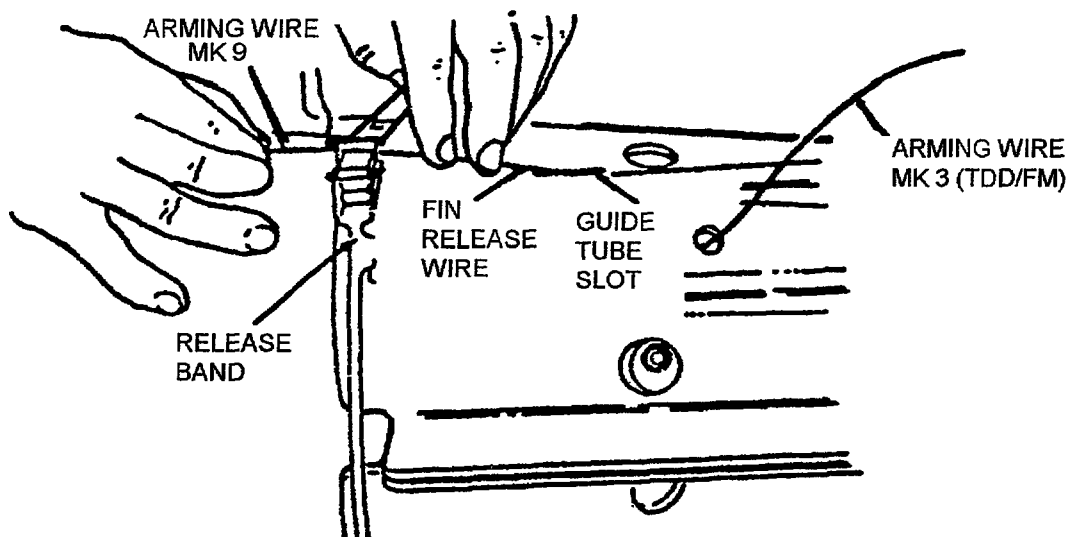

Figure 4-17F. Arming Wire Mk 9 Installation in Release Band Latch
- (1) Ensure that safety pin is installed in release band latch.
- (2) Thread free end of the Arming Wire Mk 9 through the open hole in the release band latch (Figure 4-17F).
- (3) Locate the guide tube slot, ensuring the slot aligns with the arming wire. Thread the Arming Wire Mk 9 through the guide tube slot and continue threading until the swivel is level with the forward suspension lug. Tape in place with two or three pieces of tape.
- (4) Cut the excess arming wire 3 inches from the aft end of the fin.